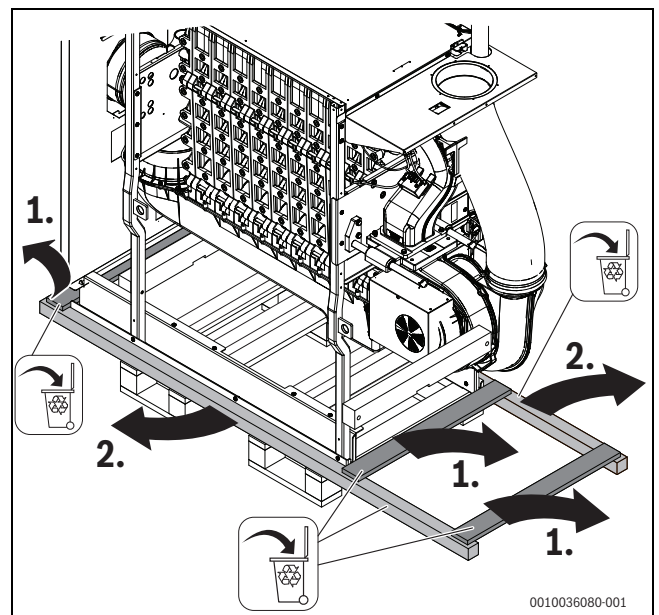

Fig. 13 Remove the fixing strips from the pallet (example for illustration purposes)
- ▶ Remove the front and rear cross strips from the pallet (→Fig. 13).
- ▶ Remove the 2 strips on the long side from the pallet (→Fig. 13).